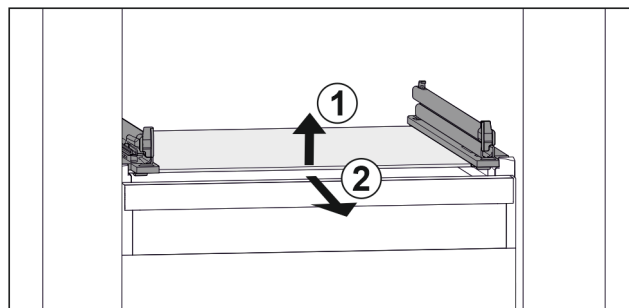

Fig. 87 Example illustration of glass shelf
- ▶ Lift glass shelf at the front. Fig. 87 (1)
- ▶ Remove glass shelf to the front. Fig. 87 (2)